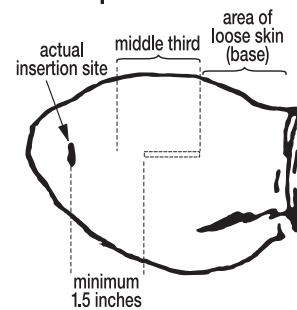

Figure 4
6. Pull the needle back as the implant is being deposited by squeezing the lever on the implanter grip. Figure 4 shows the implant in proper position in the middle third of the ear where the skin is tight.